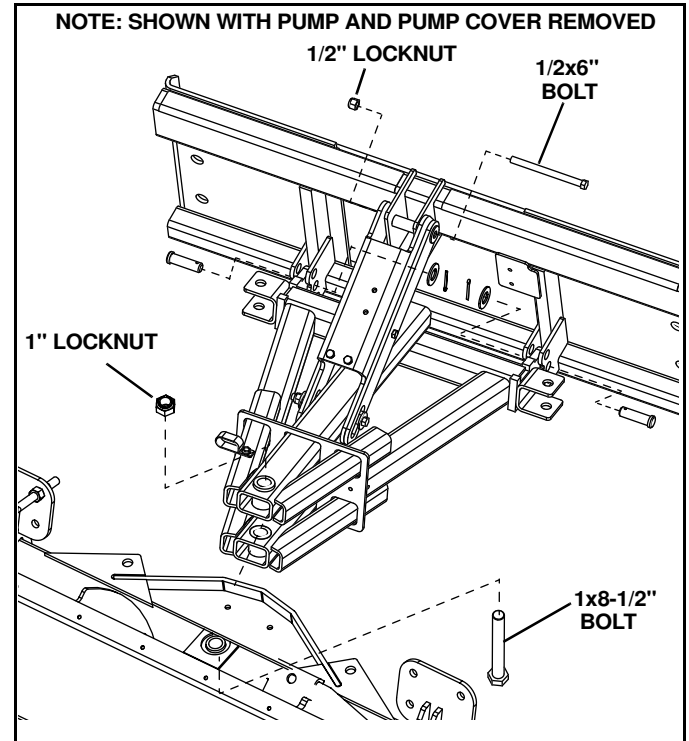

Figure 2-17
1. Install A-frame into Universal Skid Steer Adapter into center hole with 1x8-12" bolt and 1" locknut. (See Figure 2-17)
2. Connect slider link to upper mount holes in the Universal Adapter Plate with 1/2x6" bolt and 1/2" locknut. (See Figure 2-17)